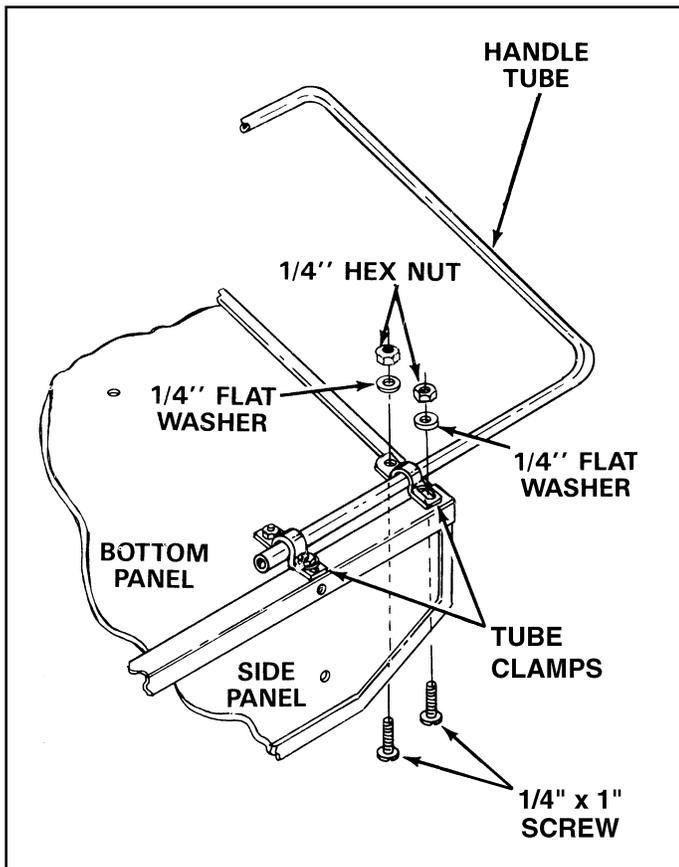

FIGURE 10
16. Turn the cart upside down. Place the handle tube on the bottom of the cart as shown in figure 10. Place the four tube clamps over the handle tube, **with the longer leg of each tube clamp to the outside.** Secure the four tube clamps over the handle tube using eight 1/4" x 1" screws, eight flat washers and eight hex nuts. Make only finger tight until all eight screws are in place and then **tighten securely.** See figure 10.
**The length of the handle tube can be adjusted by sliding the tube in or out before tightening the four clamps. See figure 10.**